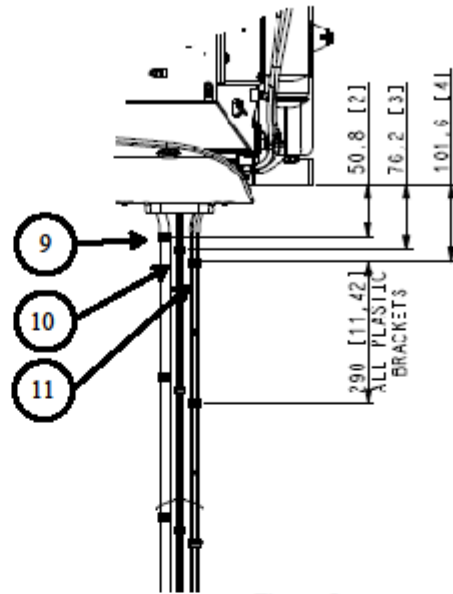

Figure 6
9. Secure the standby cable down the front wall of the truck body. The first securing point should be approximately 2 inches down from the bottom of the unit frame and every 12 inches all the way to the bottom of the truck body (see Figure 6).
10. Secure the positive battery cable, cab command cable and fuel pump cable, with the first securing point approximately 3 inches down from the bottom of the unit frame. Secure these cables every 12 inches down the front wall of the truck body. The securing point should be stagger from the standby cable (see Figure 6).
11. Secure the negative battery cable and the two fuel lines, with the first securing point approximately 4 inches down from the bottom of the unit frame. Continue to secure the negative battery cable and fuel lines down the front wall of the truck body every 12 inches. These securing points should be staggered to the positive battery, cab command and fuel pump cables (see Figure 6).